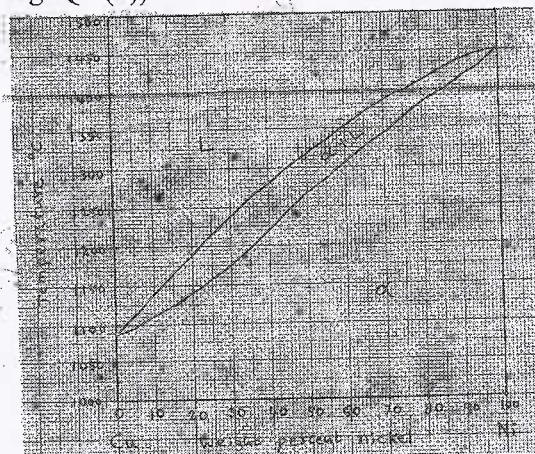

Fig. Q5 (b)
- b. Determine the composition of each phase in a Cu-40% Ni alloy at 1300°C, 1270°C, 1250°C and 1200°C (Use Fig. Q5 (b)). (08 Marks)